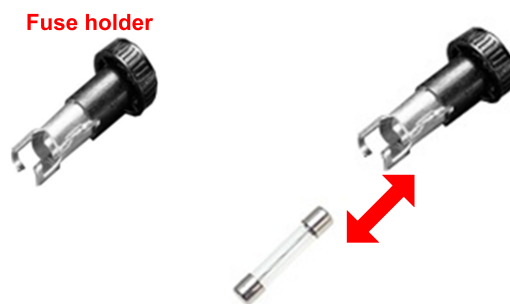

Figure 4.2: Replacing fuse in the fuse holder
4. As shown in Figure 4.2, remove the old fuse from the holder and insert the new one.